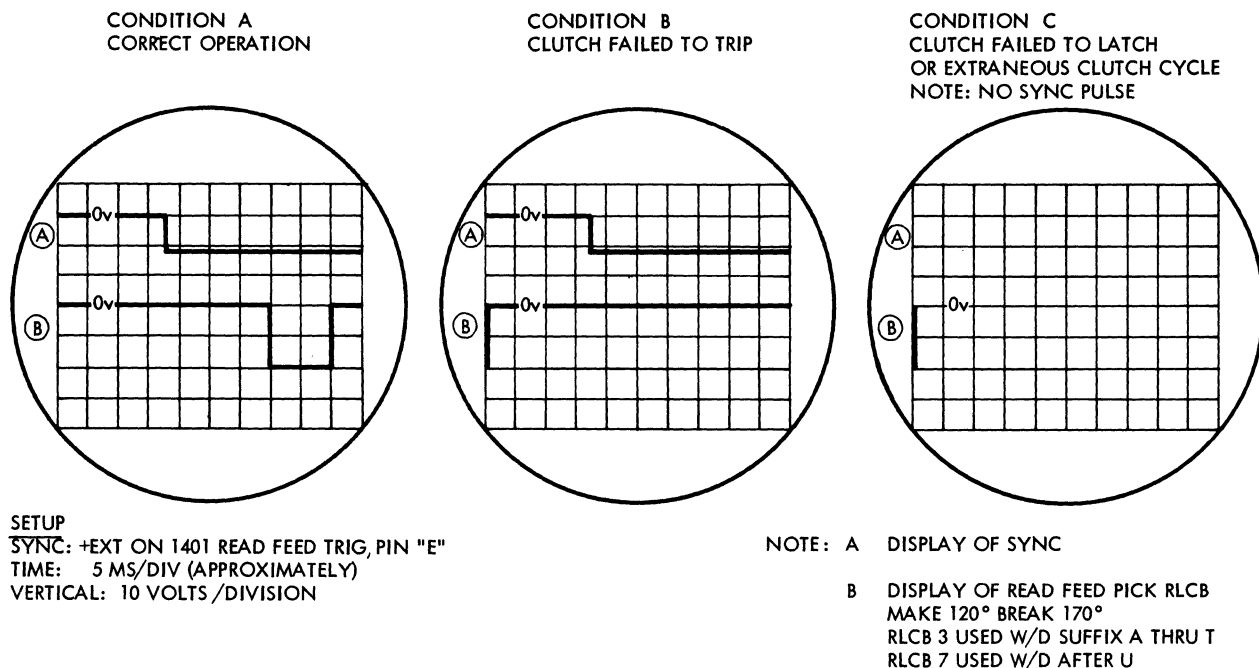

Figure 6-3. Clutch Failure Patterns
4. Any job that will cause failures may be run. Correct operation will display the read feed pick RLCB with a scope sync. See condition A in Figure 6-3.
5. If the scope traces without displaying the RLCB pulse, the clutch has failed to trip. This will be followed by a pulse at the left edge of the scope, without a sync if the clutch does engage at the next clutch latch time, following the initial failure, see condition B in Figure 6-3.
6. If the scope does not trace, but a RLCB pulse is seen at the left edge of the scope, this indicates a failure of the card feed clutch to latch, or indicates an extraneous clutch cycle. See condition C in Figure 6-3.